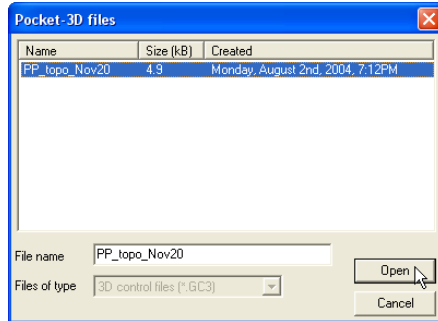

Figure 9-2. Select and Open Pocket-3D Control Point File
3. On the *Pocket-3D files* dialog box, select the file to import and click **Open** (Figure 9-2 on page 9-3). The file type is automatically selected. The information from the selected file is added to the 3D Project file.